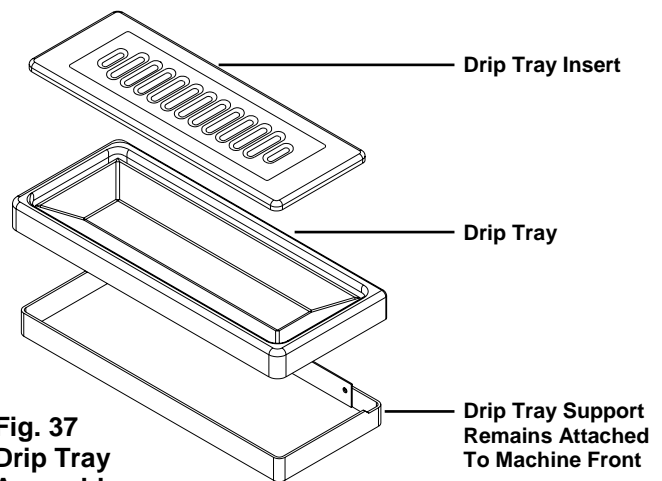

Fig. 37
3. Install the drip tray and drip tray insert (Fig. 37).